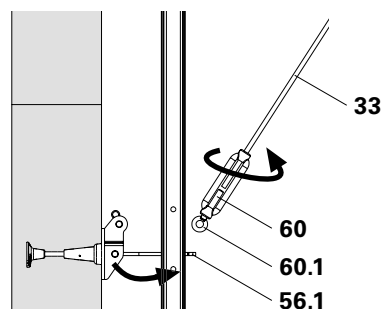

Fig. B1.34c
5. Screw Turnbuckle CB M20/DW 15 (60) onto the Tie Rod DW 15 (33). (Fig. B1.34c) Roughly adjust length by turning the tie rod. Fine adjustment by turning the turnbuckle.